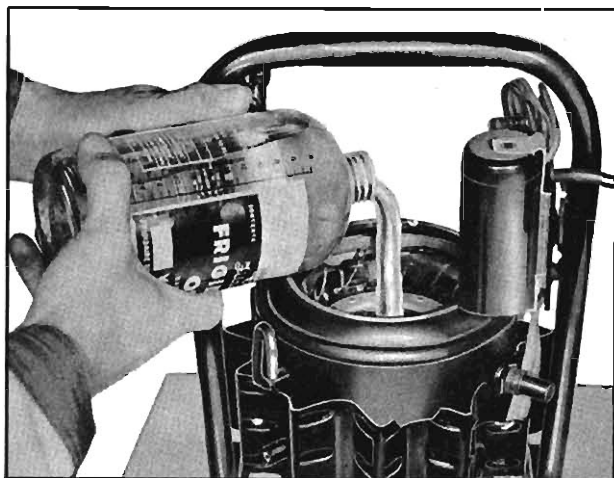

Fig. 11-12—Adding Oil to Vacuum Pump
- When adding oil, use only Frigidaire 150 viscosity oil. Carefully pry off top cover of pump and add oil as shown in Figure 11-12 to bring to proper level.